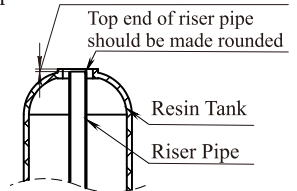

Figure 1
① The filter should be as much close to the drain outlet as possible; and better make sure to install the system at the place where no much loss would be caused in case of water leakage.
② As in Figure 1, riser pipe should be installed neither more than 2mm above the mouth of tank, nor over 5mm below it, with its top end being